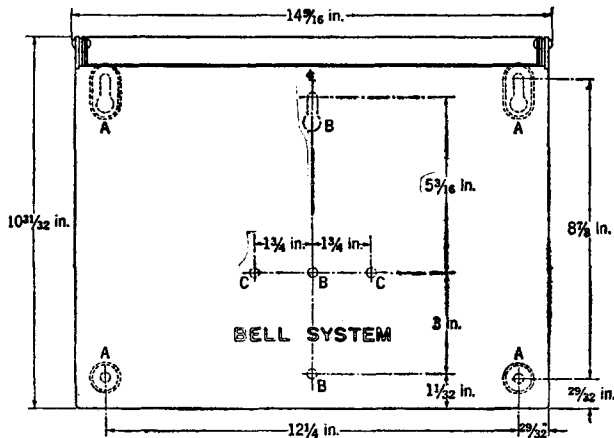

Fig. 1—159A Backboard
4.07 Locations of mounting holes in the 159A backboard are shown in Fig. 1. Fasteners for attaching this backboard are included in the table following Fig. 1. Use three of these same fasteners to attach the 169A backboard. Where use of the bottom mounting hole in 169A backboard is not practicable, place fastener through small knock-out hole near center of backboard. Mounting holes for the 169A backboard are located on and one inch to either side of the vertical center line of the backboard.
Note: If "C" knock-out holes are not provided, drill at locations shown in Fig. 1, with 9/32" drill.